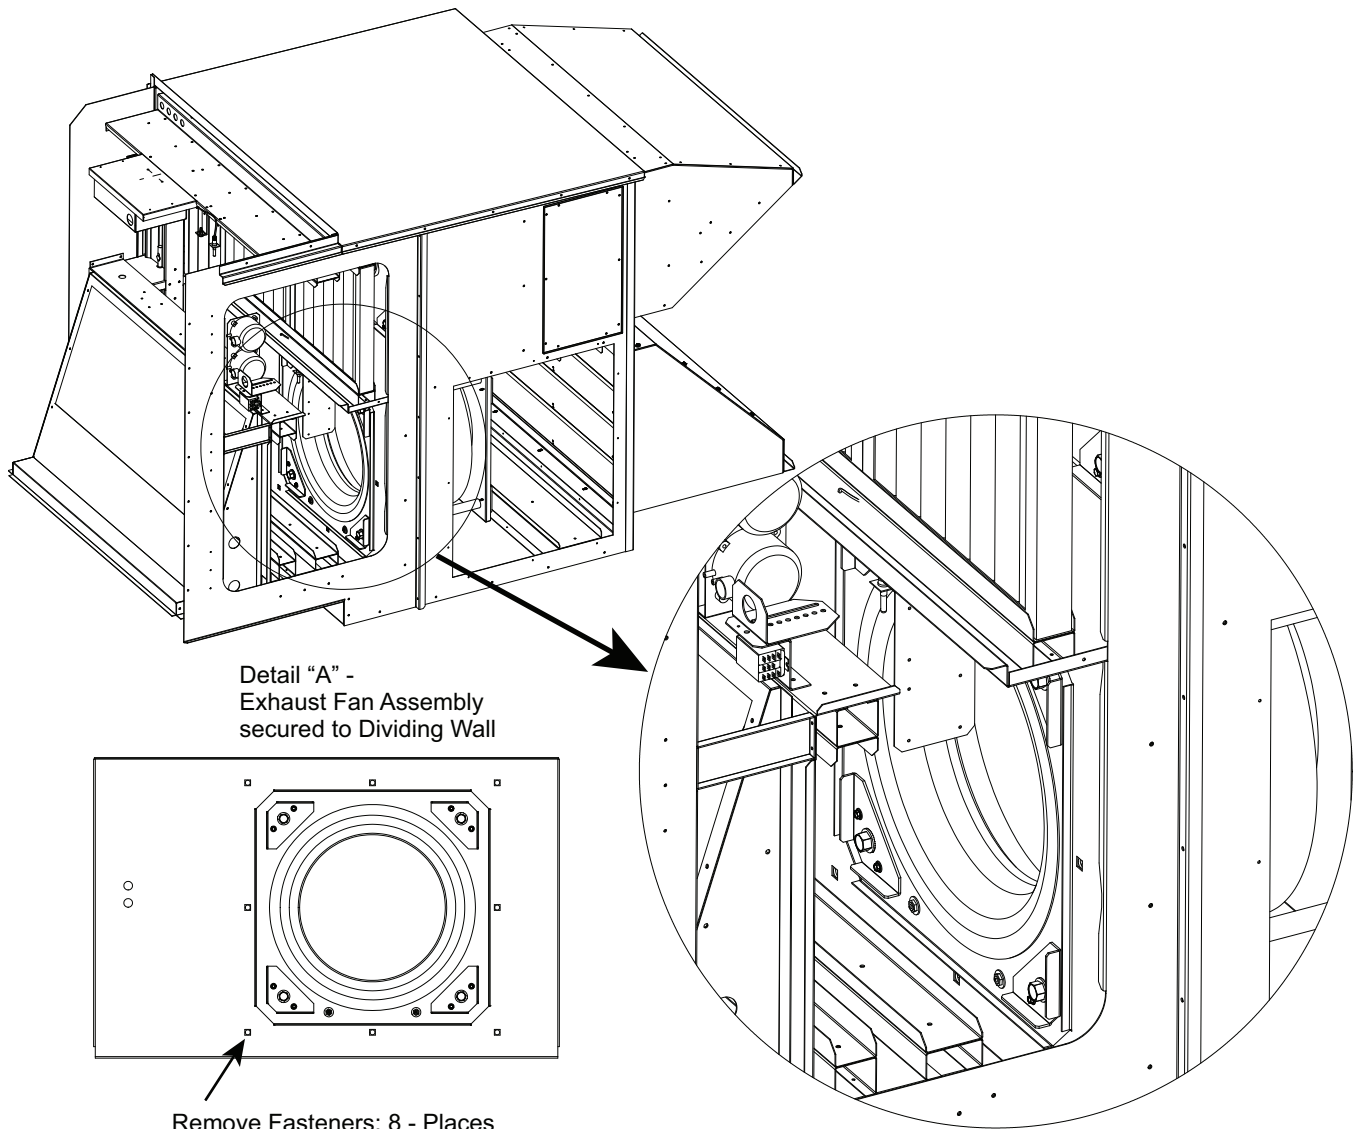

Fig. 58 — Exhaust Fan Assembly - Fastener Locations
5. Remove the fasteners around the perimeter of the exhaust fan that secure the exhaust fan front panel to the dividing wall by access through the door of the unit. See Fig. 58.